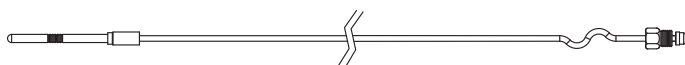

FIGURE 26.
4. Pull the thermocouple from the pilot assembly (Figure 26).